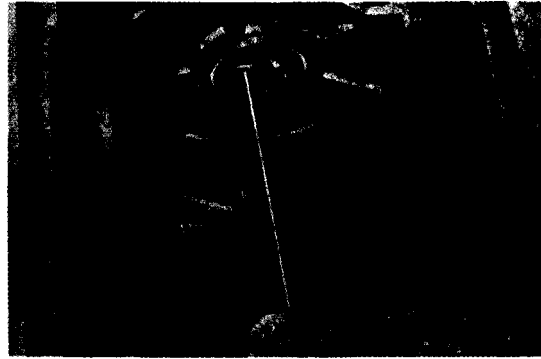

Figure 259. Removing countershaft front roller bearing from transmission case
- (c) If clutch housing is not removed, use a pinch bar to remove countershaft front roller bearing (fig. 259).